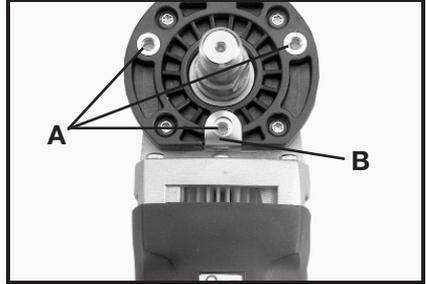

Fig. 3
2. Line up the 3 holes (A) Fig. 3, in the motor, with the 3 holes (A) Fig. 4 in the saw arm.
⚠ WARNING Make sure that the motor grounding tab (B) Fig. 3, stays in place when attaching the motor to the saw arm, for this provides a means of grounding the motor.